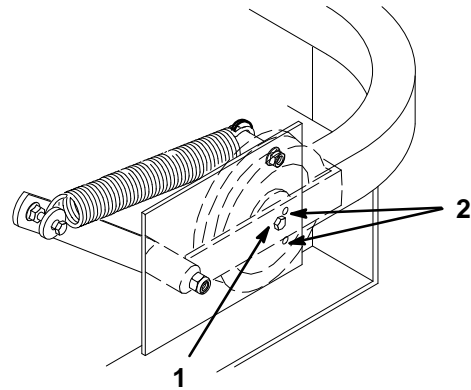

Figure 9
3. Check belt tension. The center bolt of spring loaded idler must be between the two alignment holes in left support plate (Fig 9).
Note: Check position of center bolt in Low Height of Cut. The center bolt must be at or below the top alignment hole. Check position of center bolt in a High Height of Cut. The center bolt must be at or above the lower adjustment hole (Fig 9).
5. Check belt tension again. The center bolt of spring loaded idler must be between the two alignment holes in left support plate (Fig 9). Adjust, if necessary, and tighten all hardware securely.